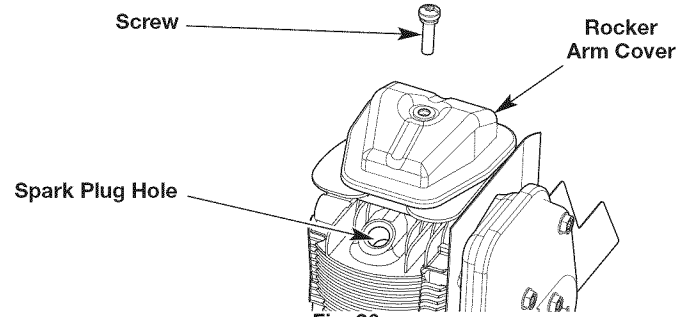
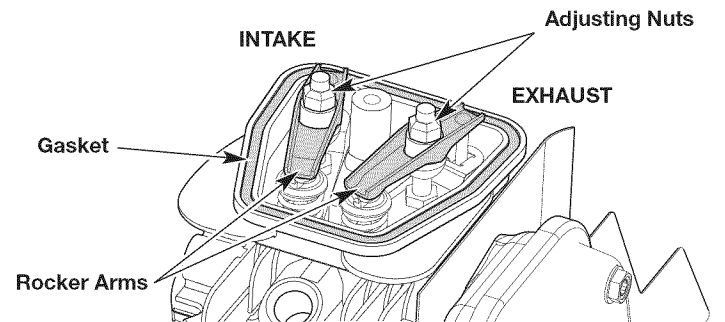

Fig. 26
Fig. 27
6. Remove the screw from the rocker arm cover with a flat-head screwdriver or T-25 Torx screwdriver (Fig. 26). Remove the rocker arm cover and gasket (Fig. 27).
7. Look into the spark plug hole (Fig. 26) and pull the starter rope slowly to move the piston. Make sure: